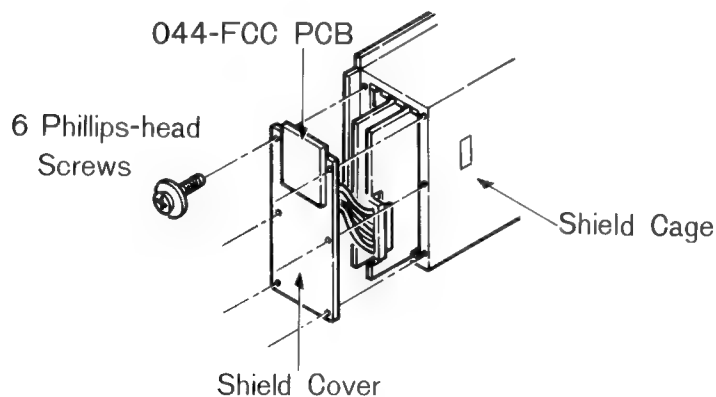

Fig. 12 Game PCB removal
- (e) After servicing the Game PCB, shut the Shield Cover completely with the Screws. See Fig. 12.